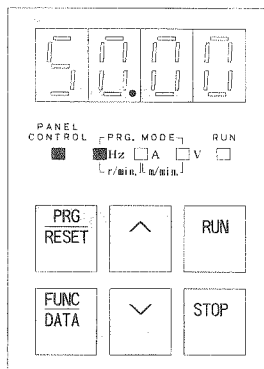

Fig. 11-1-2
- ② Make sure that there are no short circuits or accidental ground connections between the terminals or between uncovered charging sections.
- ③ Make sure that all screw and terminal connections are tight.
- ④ Make sure that the motor and the machine are separated.
- ⑤ Turn all switches off before turning on the power to make sure that the Inverter doesn't start up or operate incorrectly when the power is turned on.
- ⑥ Check the following after turning on the power supply:
- a. Does the keypad panel appear as shown in Fig. 11-1-2 (with no abnormality being indicated)?